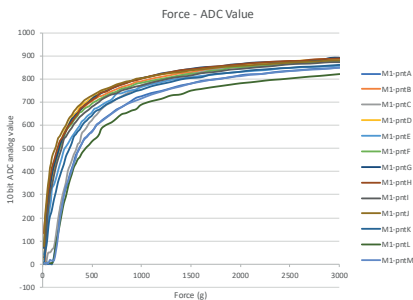

Figure 4. First method Force - Analog Value plot
Figure 4 shows the result of this method on an actual 3D sensor at several test points.
- Method 1 is the simplest to implement. Using only two GPIO and 2 ADC pins, it also requires the minimum hardware. This method achieves low noise characteristics without filtering or averaging leaving system processing power free for other tasks. However, force measurements are not as consistent at different locations on the sensor as indicated by the shifted curves in Figure 4.
- Method 2 is a compromise between Method 1 and Method 3. It improves the consistency of the force measurements in Method 1 without additional hardware or system resources. Comparing Figures 4 and 5, we can see that force curves resulting from Method 2 are more consistent and closer grouped. While this method doesn't need extra hardware it uses more processing power due to the additional measurement and averaging.